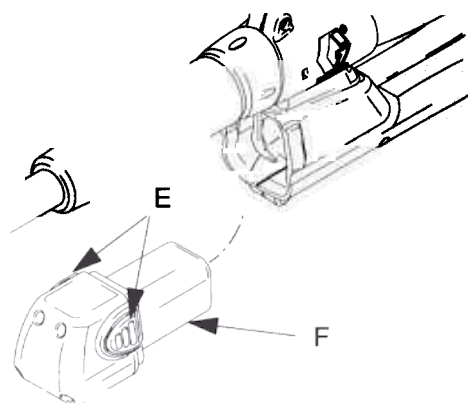

FIG. 13
1. Remove the battery by pressing in on both battery lock buttons (E) and pulling the battery (F) out and away from the meter. See FIG. 13.
3. Replace the battery by pressing in on both battery lock buttons (E) and pushing the battery (F) in to the meter. See FIG. 13.